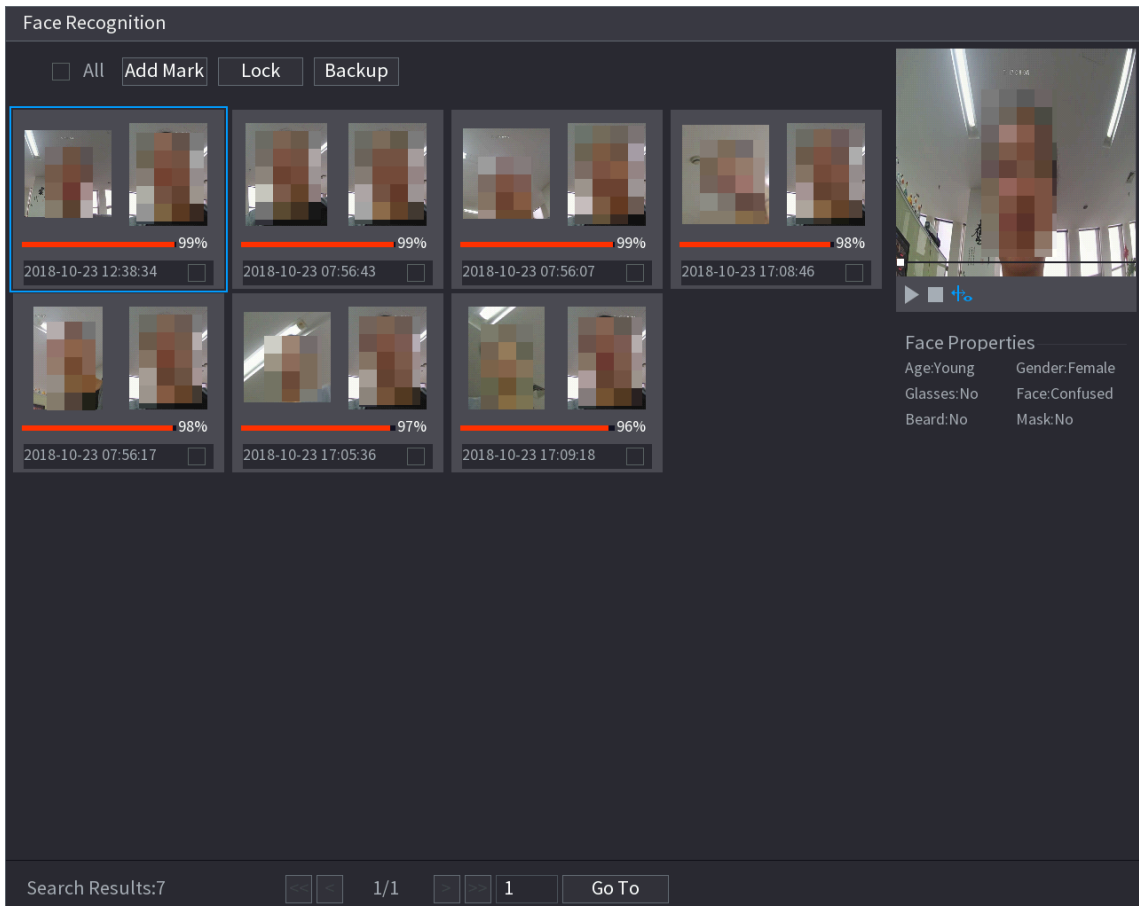

Figure 5-159
Step 5 Select the face picture that you want to play back. See Figure 5-159.